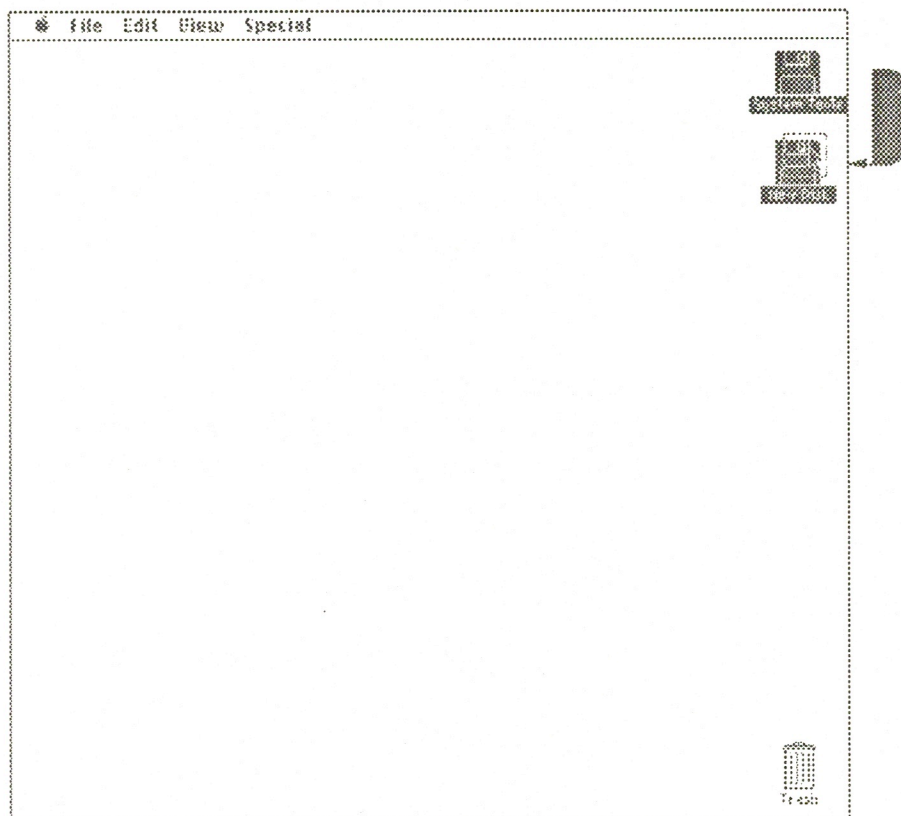

Figure 31. Dragging a disk icon to make a backup copy
4. Drag the source disk icon to the destination disk icon, as shown in Figure 31.